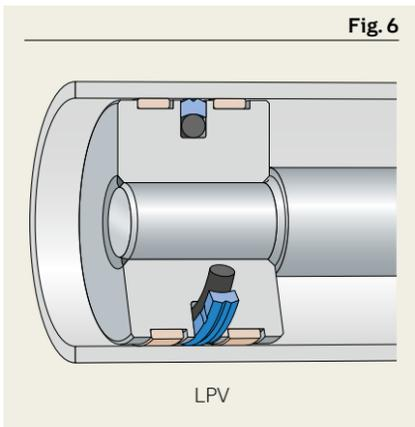

Fig. 6
LPV profiles (→ **fig. 6**) have a polyether-based polyurethane (EU) slide ring that provides resistance to hydrolysis (attack from moisture) and good low temperature flexibility. The O-ring energizer provides a cost-effective sealing solution. These profiles are developed for pressures up to 250 bar (3 625 psi) and suitable for light to medium duty applications, such as agriculture and material handling applications. They are available in metric sizes and some fit seal housings in accordance with ISO 7425-1.